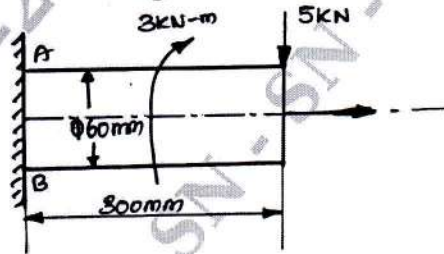

Fig Q1(b)
b. A circular rod of 60mm diameter is subjected to bending load and Torsional load as show in Fig Q1(b). Determine the nature and magnitude of stress at critical points.